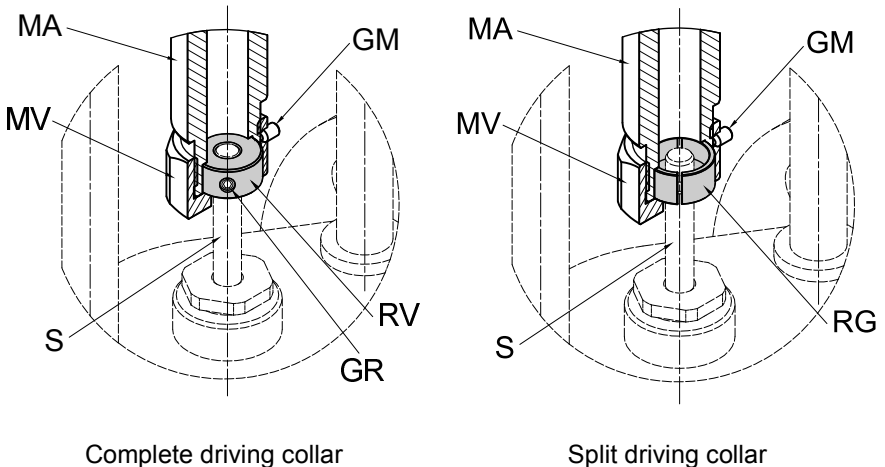

Fig. 5.10: Series V – assembly of the driving collar
1. Using mounting flange F, place the actuator onto the valve neck H (see Fig. 5.10: “Series V – assembly of the driving collar”).